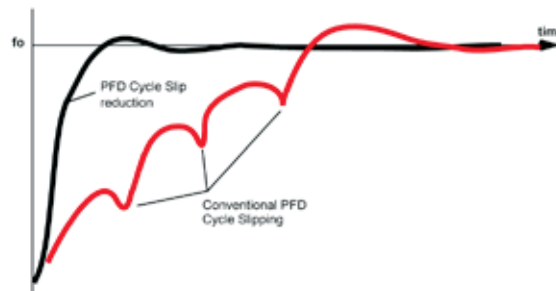

Figure 13. Cycle Slip Prevention (CSP)
When the VCO is not yet locked to the reference, the instantaneous frequencies of the two paths are different, and the phase difference of the two paths at the PFD varies rapidly over a range much greater than  $\pm 2\pi$  radians. Since the gain of the PFD varies linearly with phase up to  $\pm 2\pi$ , the gain of a conventional PFD will cycle from high gain, when the phase difference approaches a multiple of  $2\pi$ , to low gain, when the phase difference is slightly larger than a multiple of 0 radians. The charge on the loop filter small cap may actually discharge slightly during the low gain portion of the cycle. This can make the VCO frequency actually reverse temporarily during locking. This phenomena is known as cycle slipping. Cycle slipping causes the pull-in rate during the locking phase to vary cyclically as shown in the red curve in Figure 13, and increases the time to lock to a value far greater than that predicted by normal small signal Laplace analysis.
The HMC700LP4(E) PFD features an ability to virtually eliminate cycle slipping during acquisition. When enabled, the Cycle Slip Prevention (CSP) feature essentially holds the PFD gain at maximum until such time as the frequency difference is near zero. Cycle Slip Prevention, allows faster lock times as shown in Figure 13. The use of the cycle slip feature is enabled with `csp_enable` (see Table 14).